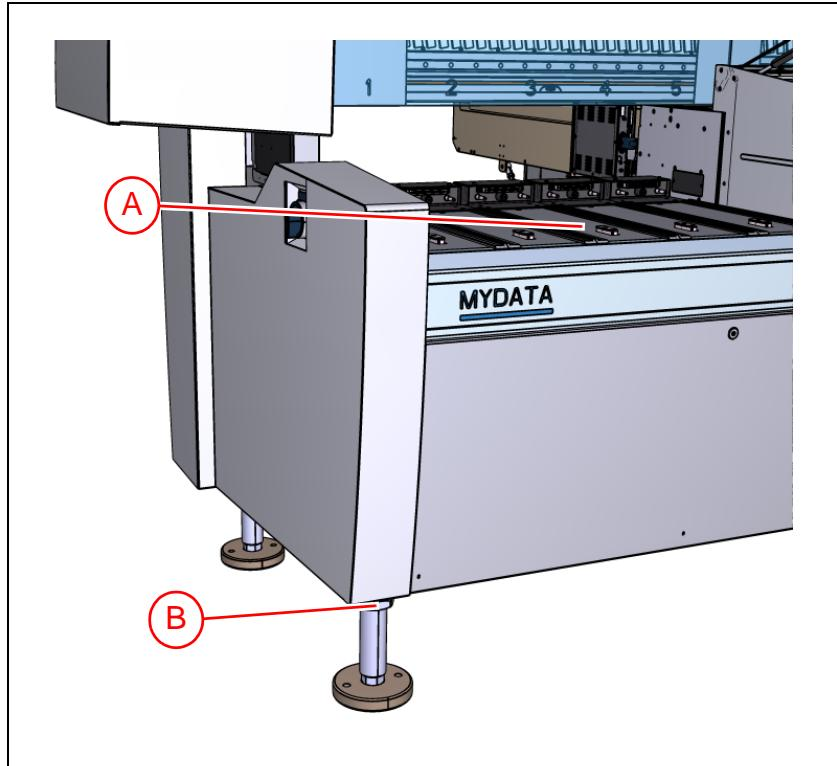

Figure 2-7. Leveling the machine.
1. Place a spirit level on the Y wagon or on top of the magazine tracks ('A' in Figure 2-7).